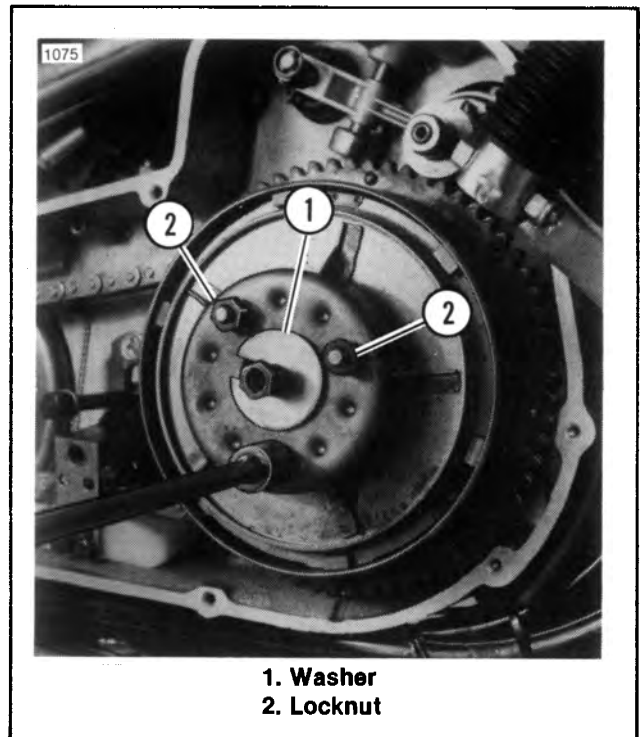
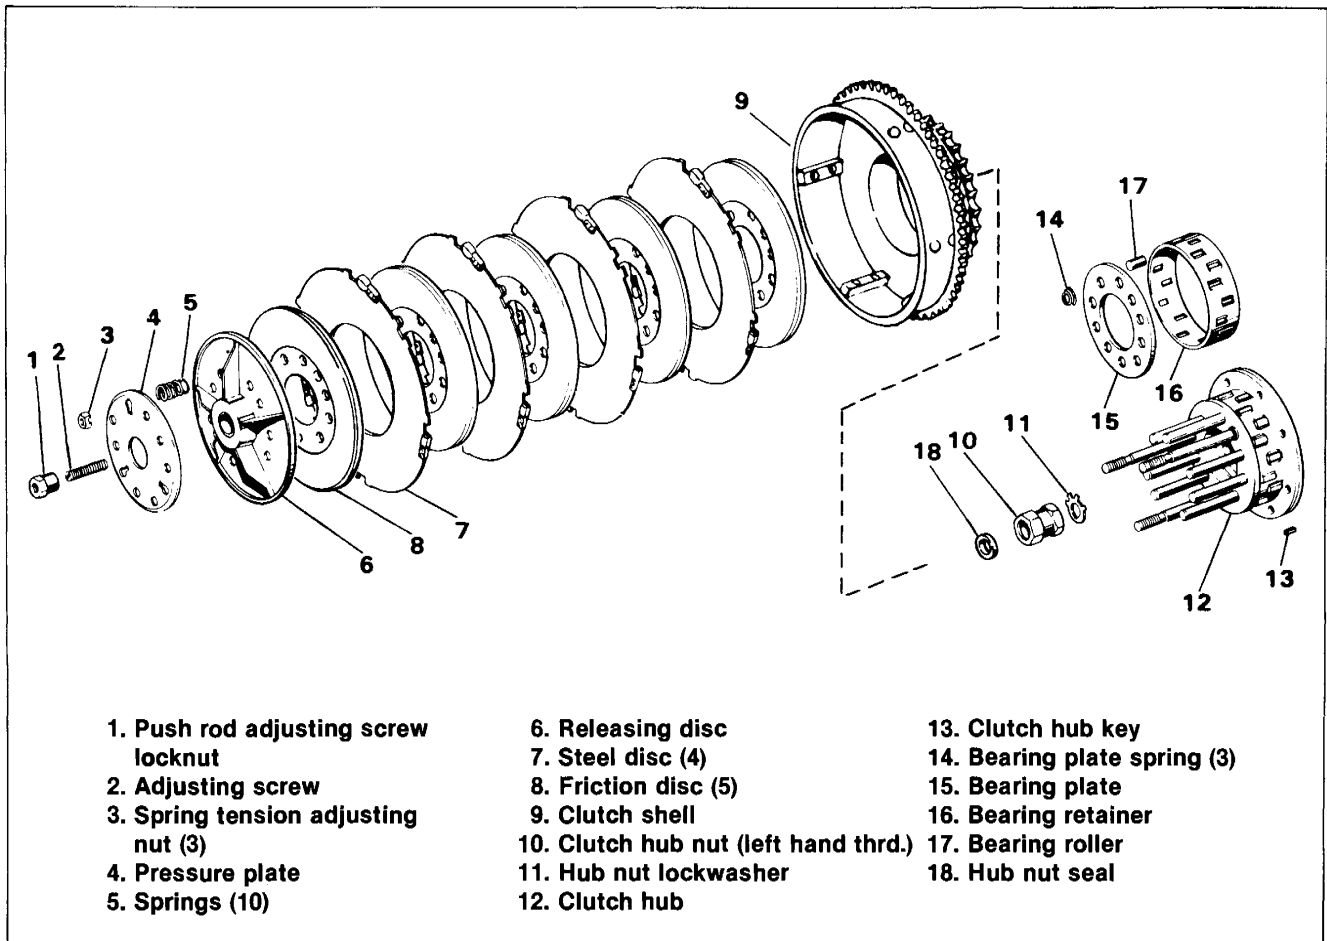
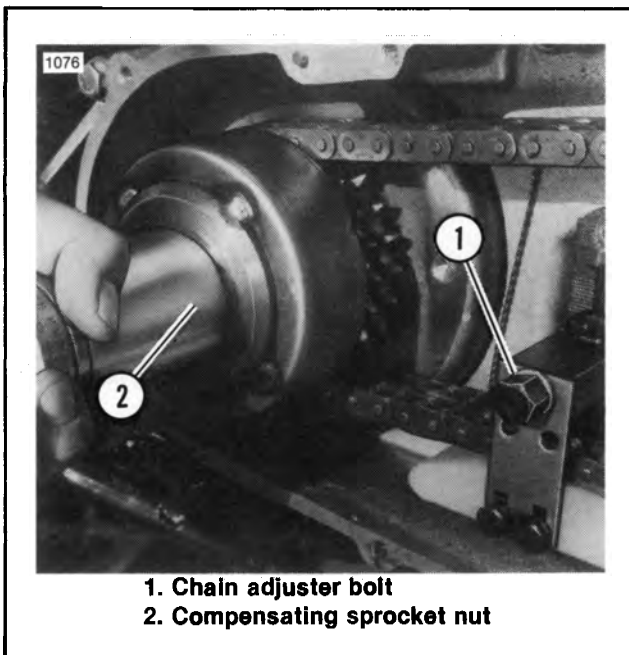

Figure 6-15. Clutch Disassembly
Figure 6-16. Dry Clutch
Figure 6-17. Compensating Sprocket Nut Removal
3. See Figure 6-15. Remove push rod adjusting screw locknut. Place a flat washer (1) (1/8 in. thick, 1-3/4 in. diameter and 3/8 inside diameter) over the adjusting screw and replace the locknut.
4. Turn locknut down until spring adjusting nuts (2) are free and remove the nuts.
5. See Figure 6-16. Remove pressure plate (4), springs (5) and release disc (6) as an assembly. Do not disassemble these parts unless replacement is necessary.
6. Remove steel discs (7) and lined friction discs (8).
7. See Figure 6-17. Remove bolt (1) and engine compensating sprocket nut (2). Remove oil hose from chain adjuster fitting. Remove clutch shell, compensating sprocket and primary chain with adjuster all as one unit.
8. See Figure 6-16. Bend back ear of lockwasher (11) on hub (12). Remove clutch hub nut (10) using CLUTCH HUB NUT WRENCH, Part No. HD-94645-41 with transmission in gear and foot on brake. **Nut has a left-hand thread. Remove lockwasher.**
- 9. See Figure 6-16. Spin the clutch hub roller bearing assembly (14, 15, 16 and 17). If it sticks or feels rough, remove the three springs (14). Slip bearing plate (15) off hub pins and remove bearing retainer (16). Inspect the bearing race and replace hub if necessary.
- 10. Check the clutch springs (5) length and compression. Spring free length should be 1-45/64 in. Check spring compression using the VALVE SPRING TESTER, Part No. HD-96796-47. Compression should be 30-38 lbs. at 1-1/4 in. Replace the springs if they don't meet these specifications.
ASSEMBLY (Figure 6-16)